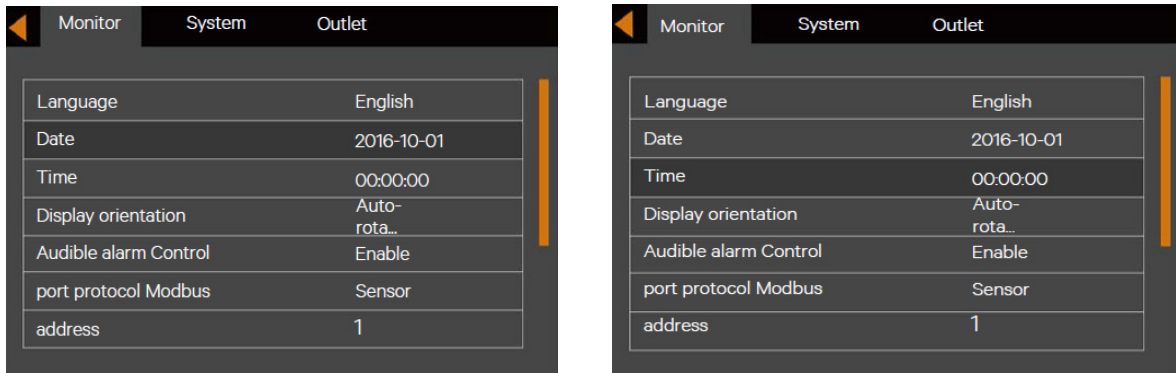

Figure 5-14 Selection of date and time
2. Press the key and press the or key to highlight the date and time, see Figure 5-14.